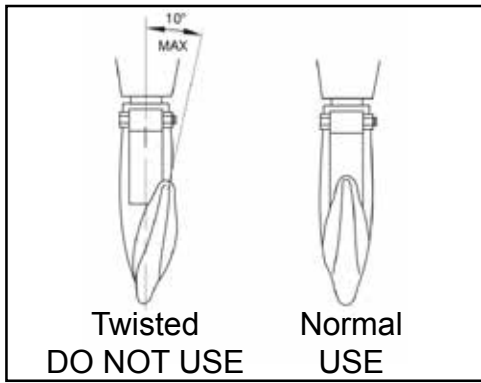

FIGURE 4
- » HOOKS: Check for wear and damage monthly. This includes: cracks, twists, latch engagement and latch operation (See Figure 4). Replace hooks that exceed the throat opening discard width (See Inspection Criteria). If the hook latch snaps past the tip of the hook, the hook has been overloaded and must be replaced. Check the hook support bearings for lubrication and damage. Check that hooks swivel easily and smoothly. Repair or lubricate as needed.